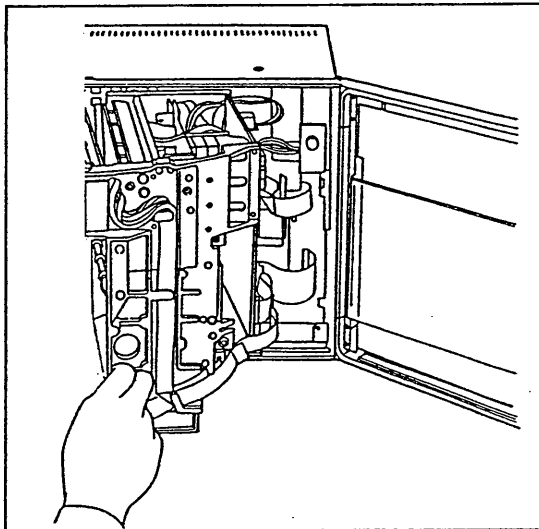

Figure 6-2. Opening Internal Assembly.
- (2) Open the internal assembly (see Figure 6-2).